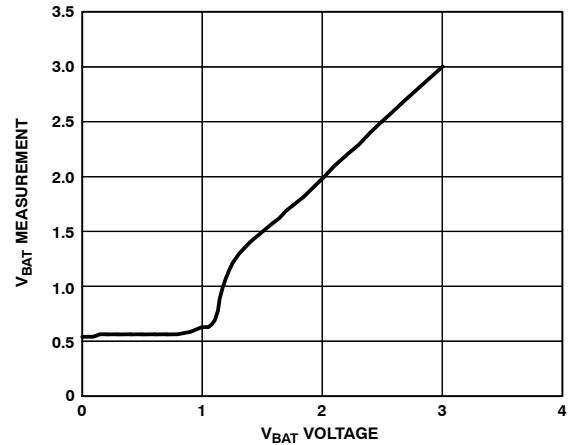

Figure 14.  $V_{BAT}$  Measurement vs. Voltage
4. Total unadjusted error (TUE) includes offset, gain, and linearity errors of the ADC, multiplexer, and on-chip input attenuators.  $V_{BAT}$  is accurate only for  $V_{BAT}$  voltages greater than 1.5 V (see Figure 14).